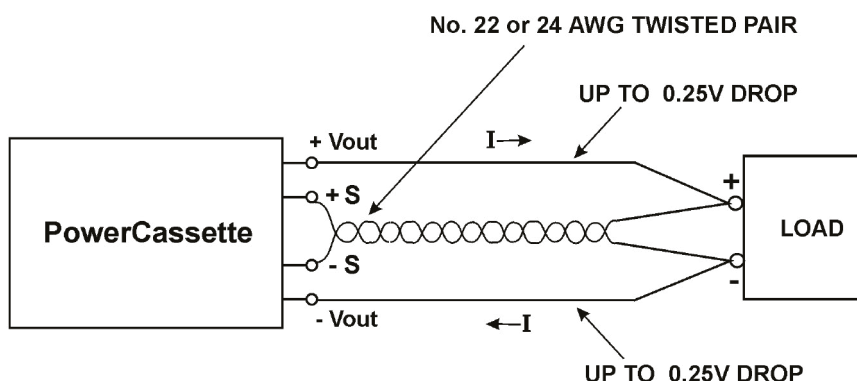

Figure 8 - Remote Sensing Connection for Each V1, V2 or V3 Output
- 13.6 Remote Sensing.** Remote sensing connections for V1, V2 and V3 are made to the designated pins on the large Positronics connector. Remote sensing is not available on the low current V4 and V5 outputs or on the Standby +5V, 250 mA output. Remote sensing is used to regulate the output voltage at the point of load by compensating for the voltage drop in the wires to the load. Each +Sense lead must be connected to the + side of the load and each -Sense lead to the -side of the load. The sense leads should be color-coded, twisted pairs of AWG no. 22 or 24 copper wire. See Figure 8. Remote sensing can compensate for a total voltage drop of 0.5V, or 0.25V per load wire. The sense leads should not exceed 10 feet (3 meters) in length. If remote sensing is not required, the sense leads may be left open for local sensing at the output terminals. Be careful not to reverse the sense lead connections, as this could damage the output.